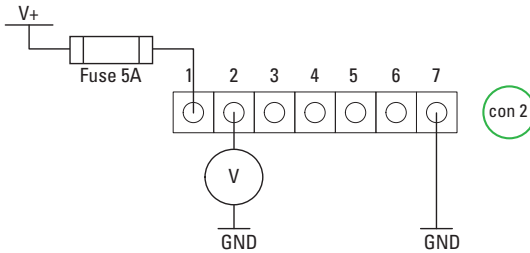

Figure 18. Determining the batteries SoC
3. Determine the voltage at Pin 2 of CON2 (see figure 18).